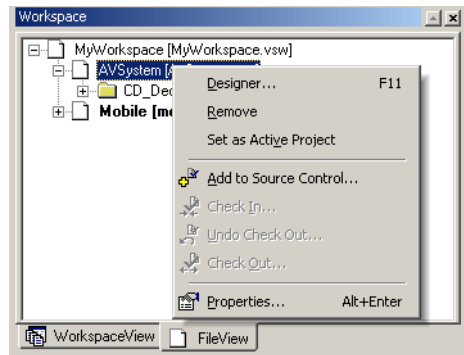

Figure 20: Setting a visualSTATE Project as active
- 2 In workspace browser, select the System or Project to set as active. Open the pop-up menu and choose **Set as Active...**. See *Figure 20*, page 29 where a Project has been selected.